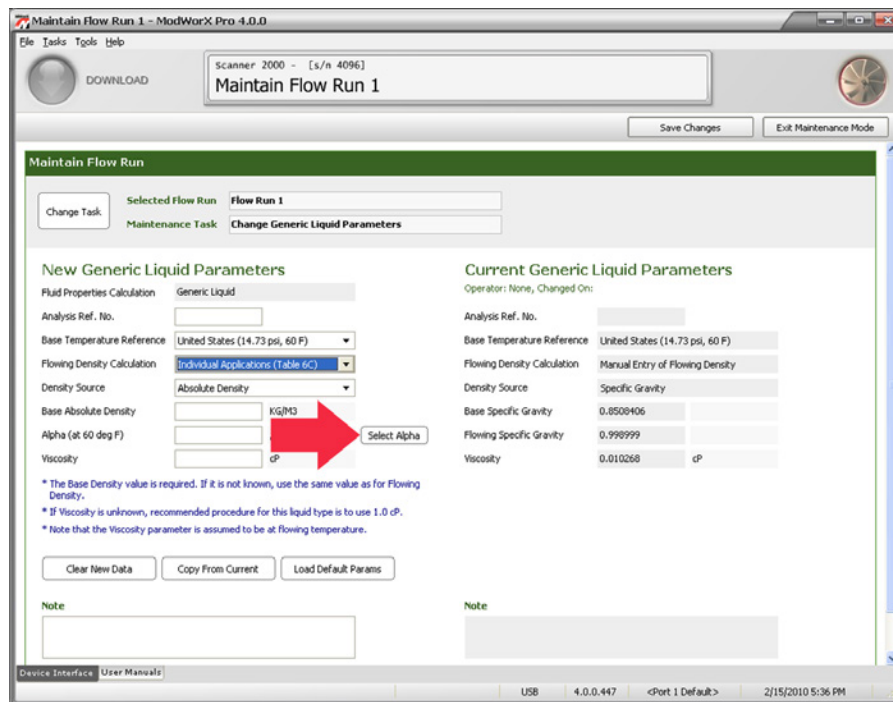
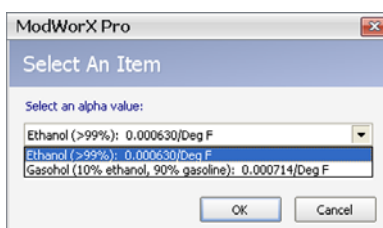

Figure C.7
Figure C.8
9. Enter the Flowing Density (Absolute or Specific Gravity) value, if applicable. If the Flowing Density Calculation method is set to Individual Applications, this field will be displayed as “Alpha” and the user will enter the appropriate thermal expansion coefficient that has been provided for his specific application, or experimentally determined to be suitable (Figure C.7, page C-7). Thermal expansion coefficients must be derived in accordance with API-2540, Section 11.1.6. Click the **Select Alpha** button to select a predetermined alpha value (Figure C.8, page C-7).